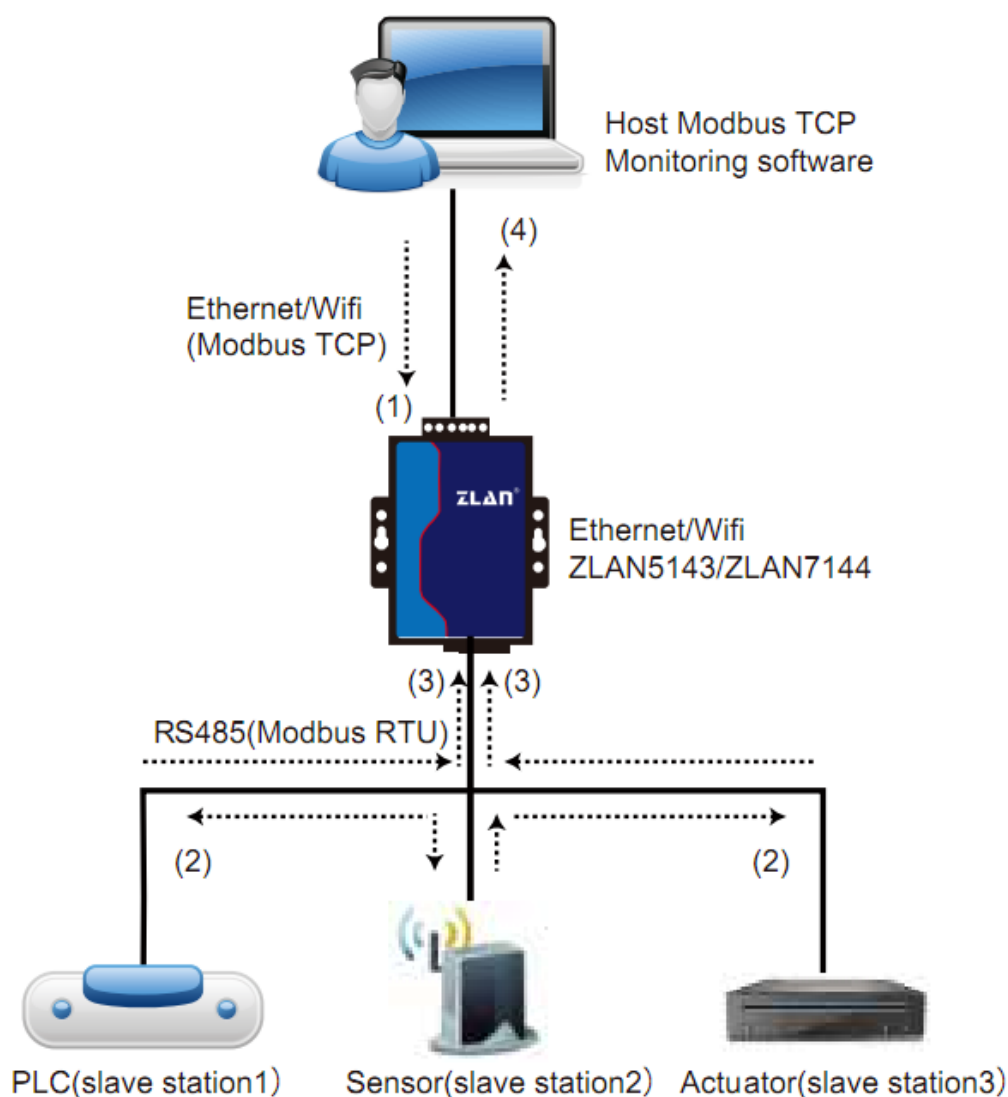

Figure 46 Storage Modbus Gateway Work Mode
As shown in the figure 46, the general Modbus TCP data flow direction is (1) → (2) → (3) → (4). First, the Modbus TCP command is transformed into the corresponding instruction of Modbus RTU, and then the device responds Modbus RTU instruction to Modbus gateway, and then Modbus gateway is converted again to Modbus TCP to be sent to the monitoring upper computer.